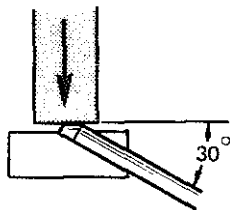

Fig. 9-43 Grinding an outside-bevel gouge.
- a. Hold the gouge so that it rests on the tool rest across the wheel as shown in figure 9-43. Rotate the bevel on a vertical plane against the moving grindstone wheel until a feather edge is formed on the straight surface of the gouge.